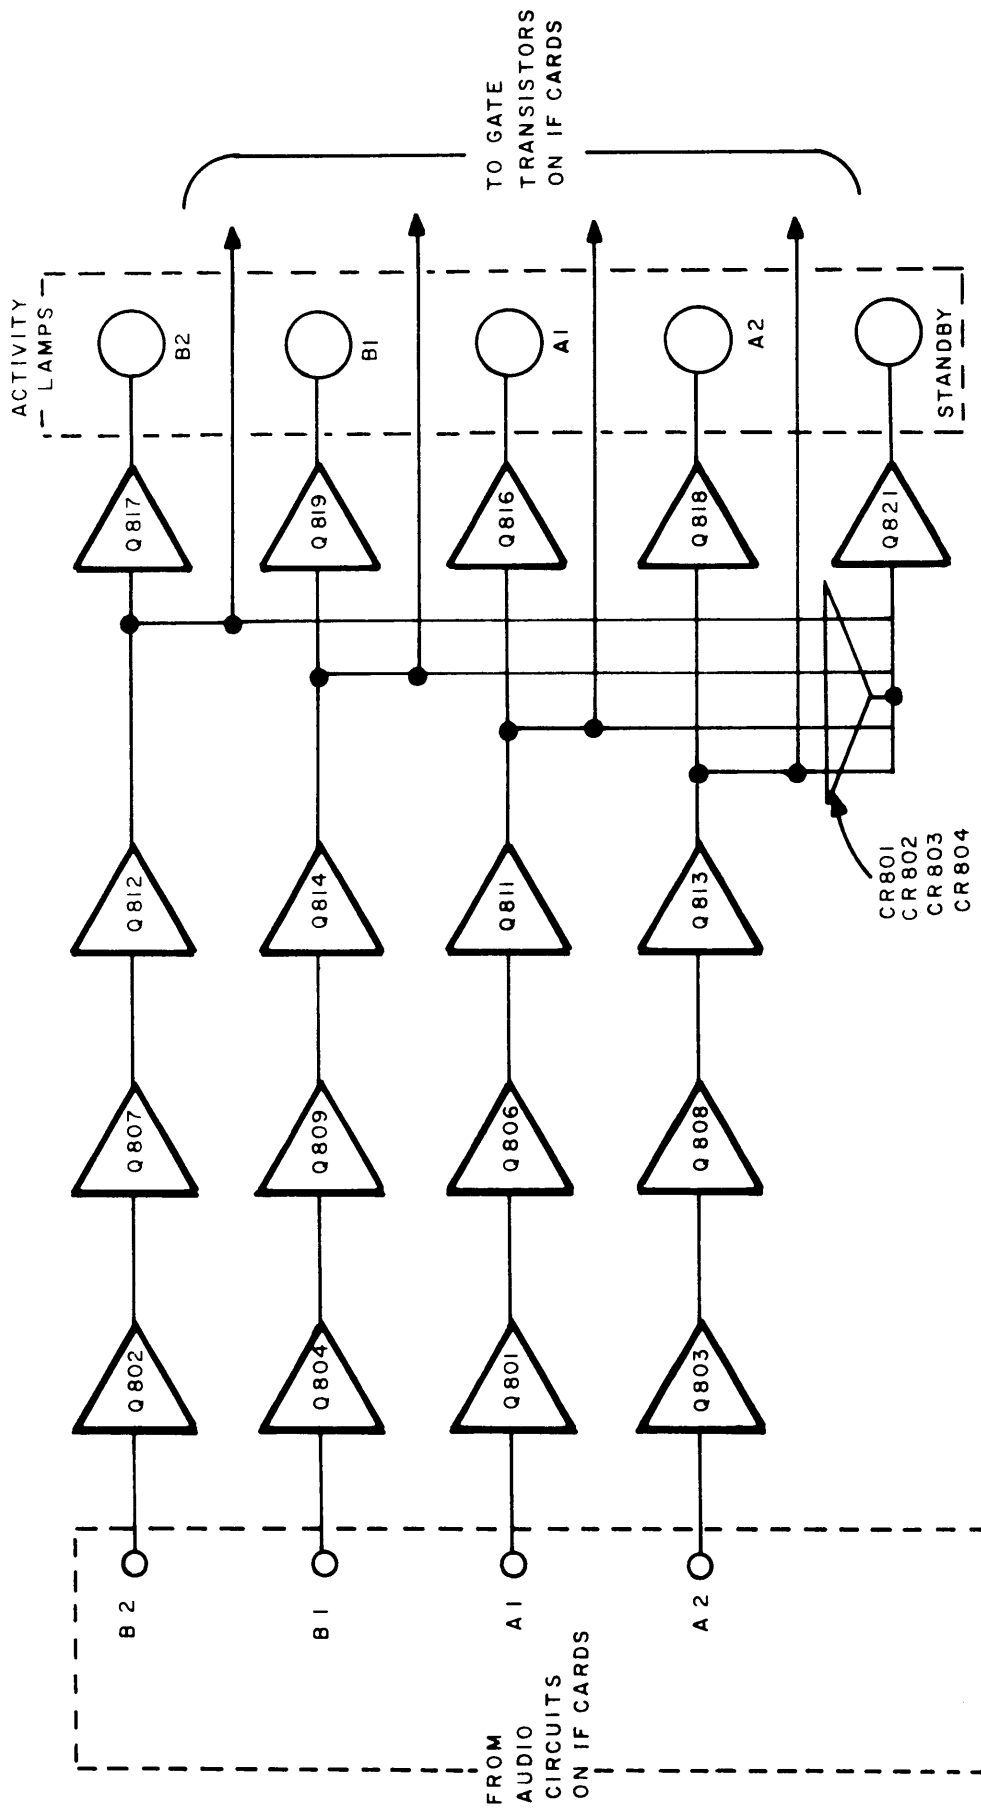

Figure 4-4. Block Diagram, Logic Circuits, CMRA
c. LOGIC CIRCUITRY. - Changing d-c levels from the r-f circuitry are applied to the logic circuits for control and front panel signal purposes, as follows: activation of IF gate when audio input is -26 dbm and deactivation when audio input is -30 dbm, lighting corresponding front panel lamp of activated channel, and turning on standby lamp when all channels are deactivated and turning off standby lamp when any one channel is activated. The d-c levels are set by potentiometers in the IF circuitry so that the logic circuit changes state when the audio signal goes above -26 dbm. (Refer to figure 4-4.)